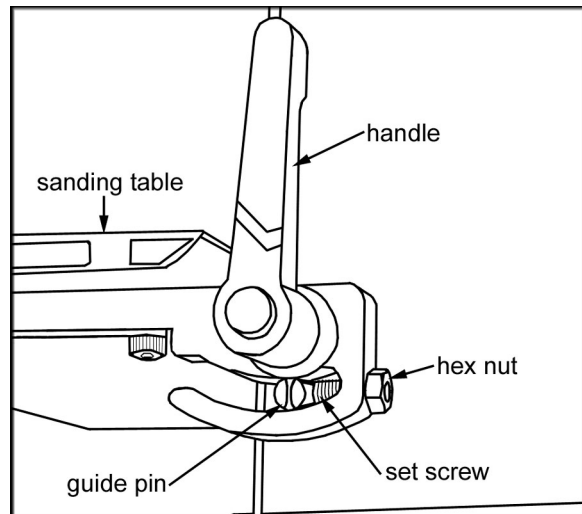

Figure 6
4. Always maintain a gap of approximately 1/16" between the table edge and belt. Once the table is square and parallel to the belt adjust the 90° stop. Loosen the hex nut and tighten the set screw until it contacts the guide pin, (Figure 6). Tighten the hex nut. Repeat for the other side.